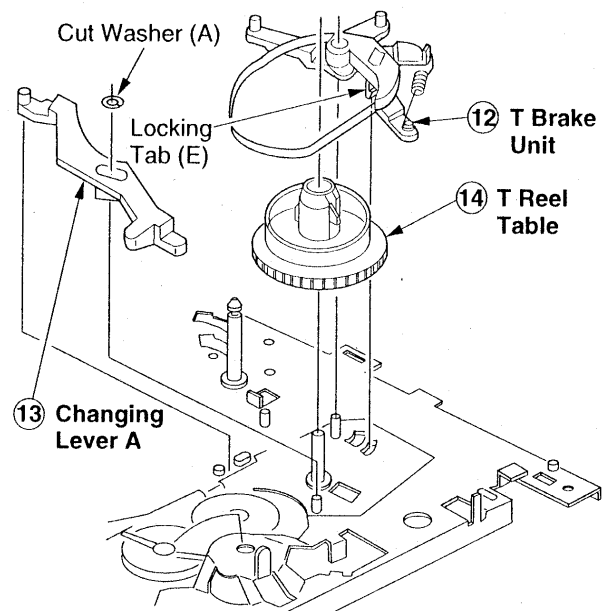

Fig. 12 - T-Brake/Change Lever (A)/T-Reel Table Removal
**T-Brake/Change Lever (A)/T-Reel Table Removal (Figs. 12, 13)**
1. Release one (1) tab (E) located under the chassis and remove the T-brake.
2. Remove one (1) cut washer (A) and then pull up on the change lever (A) to remove it.
**Note:** Cut washer (A) is not reusable. If removed, install a new washer when reassembling.